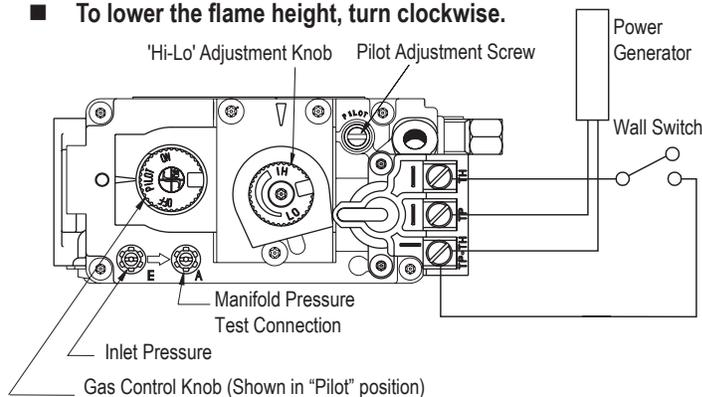

Figure 33. 'Hi-Lo' Adjustment on the SIT Nova 820 gas valve,
The H*34DF* is equipped with an adjustable burner, allowing you to raise or lower the flames. To adjust the flames, locate the black knob marked 'Hi-Lo', in the centre of the gas control valve (See Figure 33).
1. Locate Pilot Adjustment Screw. (See figure 33 or 34.)